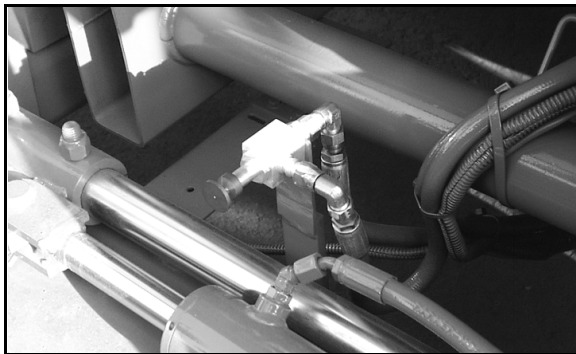

Figure 4: Emergency Lowering Valve
14. Open the chassis emergency lowering valve (Figure 4) to check for proper operation by pulling and holding the knob out. Once the platform is fully lowered, close the valve by releasing the knob.
The emergency lowering control is located at the rear of the machine at the base of the scissor assembly (Figure 4).